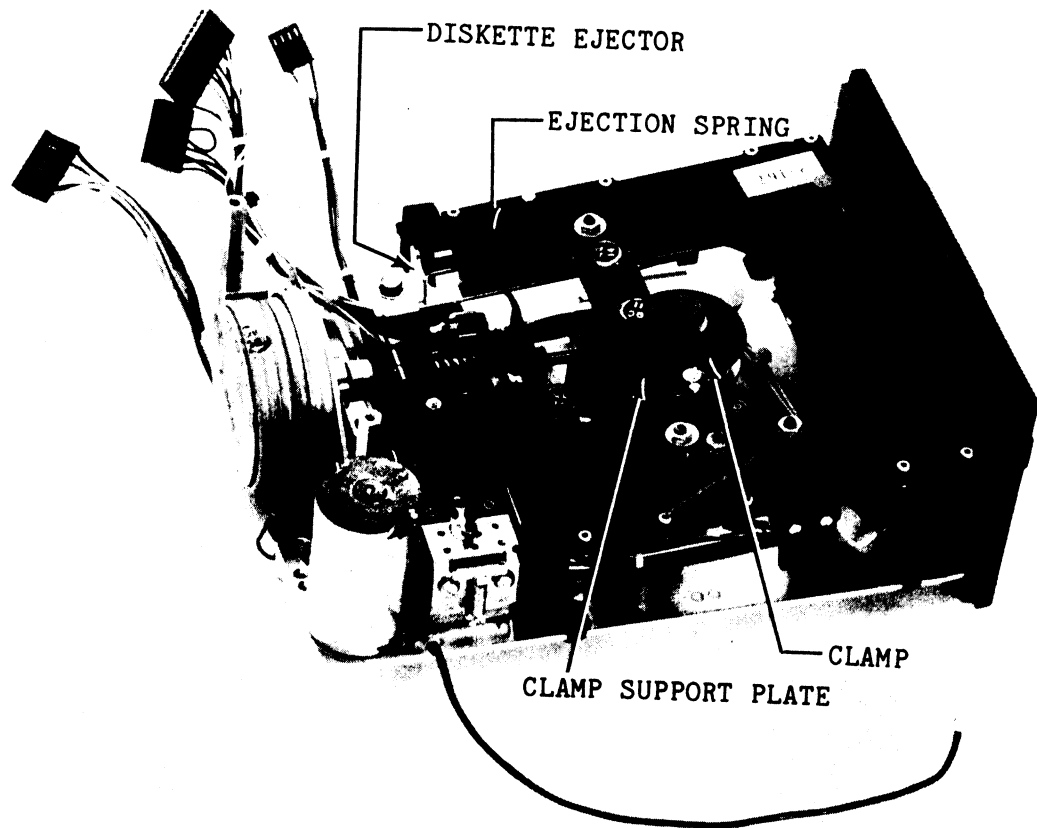

Figure 6-9. Clamp and Clamp Support Plate
- a. Remove the two clamp support plate retaining nuts and washers (see Figure 6-9).